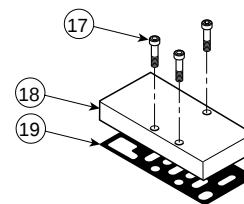

FIGURE 6: Blanking Plate, Gasket, & Mounting Screws
Use top blanking plate (18) with a manifold (8) to reserve a place for a valve that will be added later to the manifold bank or to remove a valve from a manifold without having to remove the manifold block from the manifold bank. (See Figure 6.)